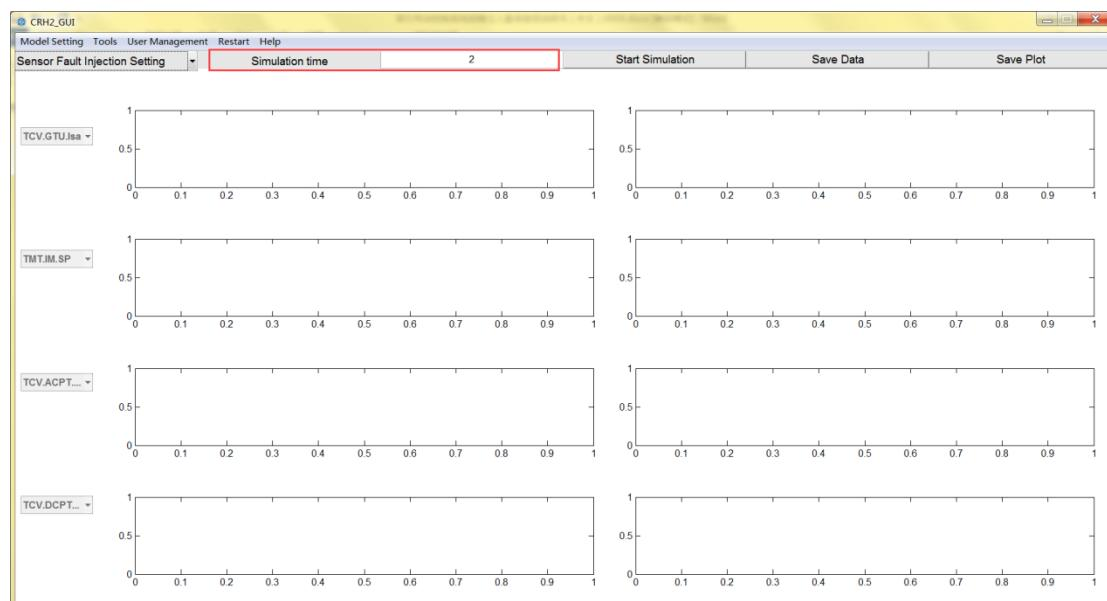

Fig. 54 Simulation time setting
- ⑤ Set the simulation time, the simulation duration is 2 seconds, as shown in Fig. 54.